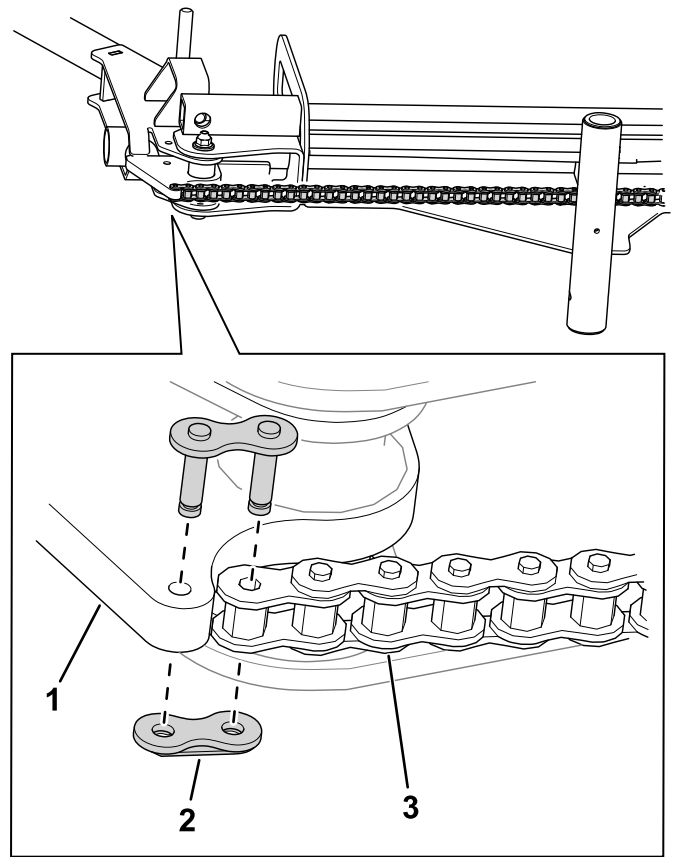

**Figure 6**
8. Use a flange nut (5/16 inch), 2 washers, and a shoulder bolts to secure the ramp assembly to the rail assembly (Figure 6).